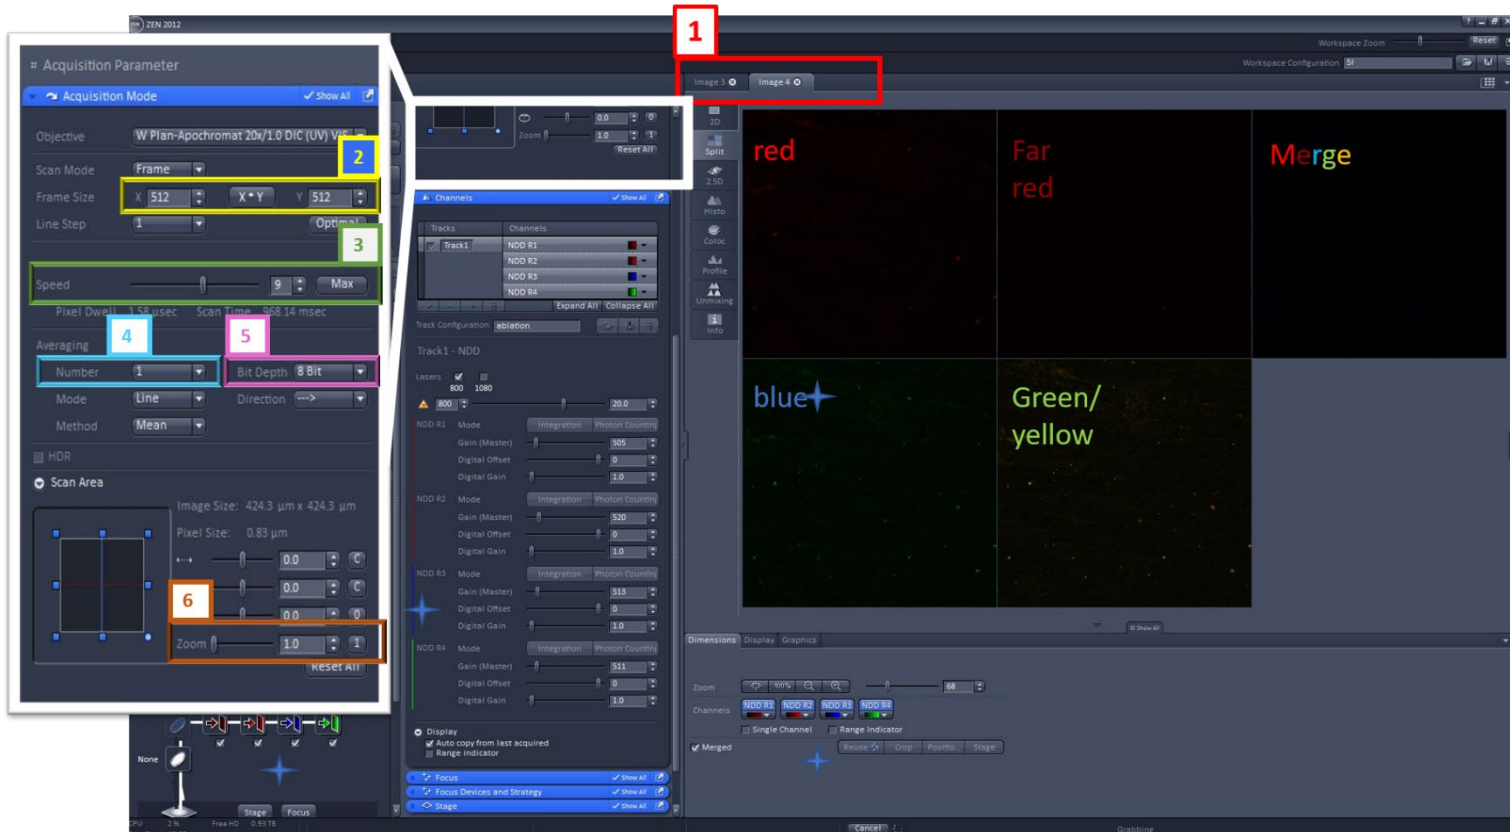

Figure 11: Image Acquisition Parameters
- iii. With lights off, press "live" to acquire live images. In the main box on the right in Figure 11 below you can see all 4 channels coming in. The Merge channel at the top right is also displayed
- c. Each new image/result will pop up in a new tab (red box 1 in Figure 11 below). On the right side of the screen you can add more notes about the image, do some initial data analysis, and adjust the display settings.
- i. In left-most tab area, collapse the blue laser bar and open Acquisition Mode (under "Acquisition Parameters", see Figure 11 below). Here you can adjust the **number of pixels acquired per frame (2)**, the **scan speed (3)**, the **number of times to average an image (4)** (to increase the SNR), **the bit depth (5)**, and **how zoomed in you are in your field of view (6)**. (see fig. 11 for colored box references)